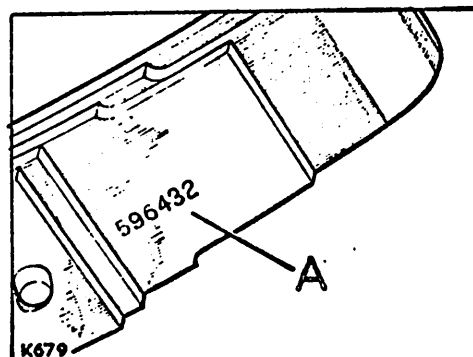

Fig. 1. Spring Identification
1. Check the part numbers to ensure that the correct springs are fitted. The Part No. is stencilled on the top face and stamped on the under face of one of the leaves. See Fig. 1 below.